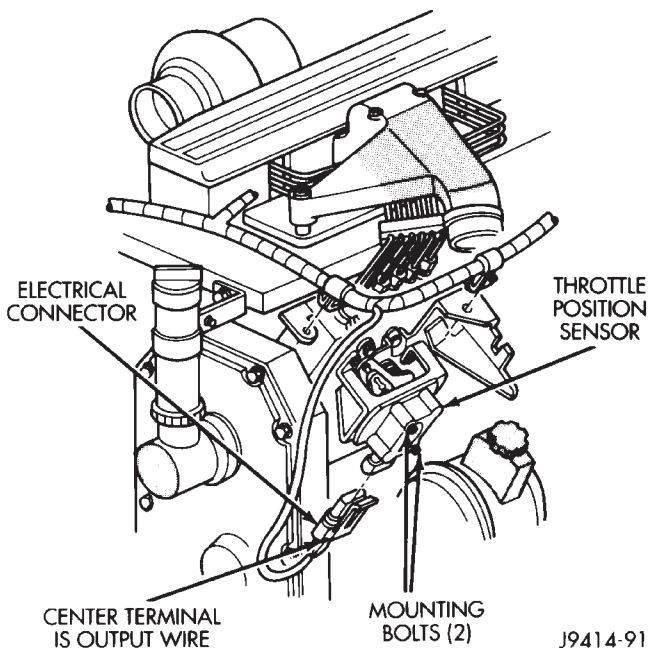

Fig. 4 Throttle Position Sensor Location—Typical
- The Throttle Position Sensor (TPS) (Fig. 4) to supply a voltage reference input to the PCM. This will tell the PCM how far the throttle has been opened. If equipped with the California Emissions Package (with EGR system), the TPS will be used with **both automatic and manual transmissions**.